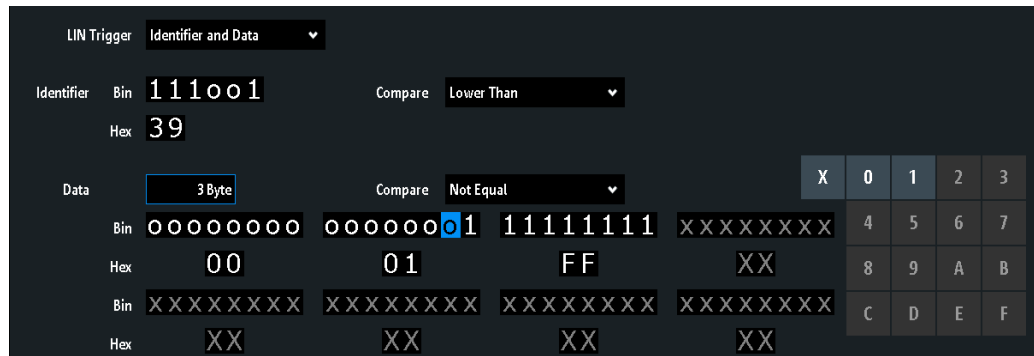

Figure 13-32: Trigger setup to trigger on identifier and data patterns
- "Identifier and Data" Triggers on a combination of identifier and data condition. The instrument triggers at the end of the last byte of the specified data pattern. An example is shown in Figure 13-32. See "Identifier condition" on page 305 and "Data condition" on page 306.